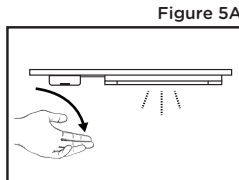

Figure 5A
- To turn ON: Move a hand or other object in any direction within 2"-3" past the motion sensor on the switch. See **Figure 5A**.